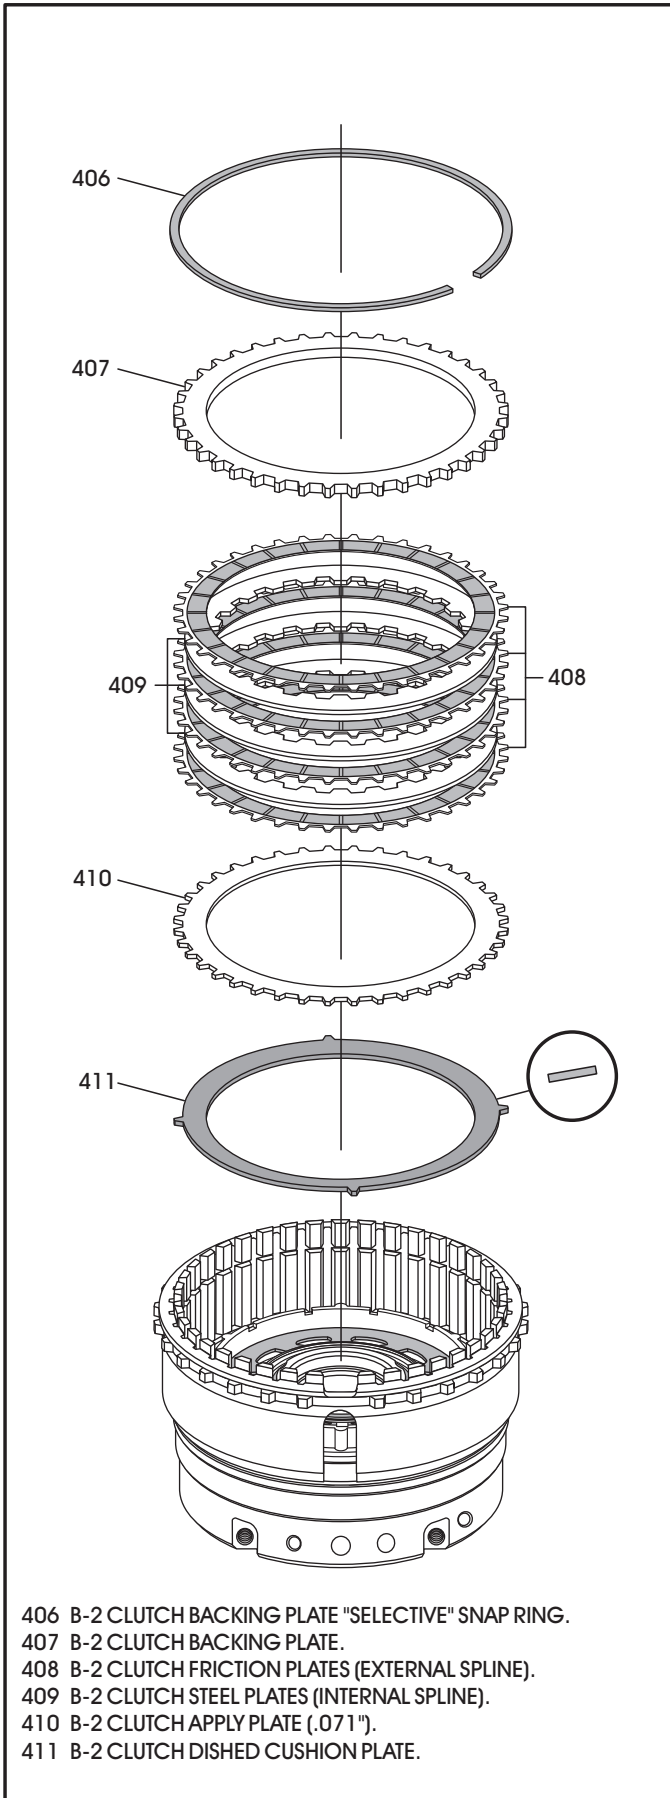

Figure 162
23. Install the B-2 clutch dished cushion plate in the direction shown in Figure 162.
24. Install the B-2 clutch .071" thick apply plate, as shown in Figure 162.
25. Install "double-sided" clutches beginning with a friction plate and alternating with steel plates, as shown in Figure 162, until you have proper number of plates installed.
26. Install the B-2 clutch backing plate, as shown in Figure 162.
27. Install the B-2 clutch selective snap ring, as shown in Figure 162.